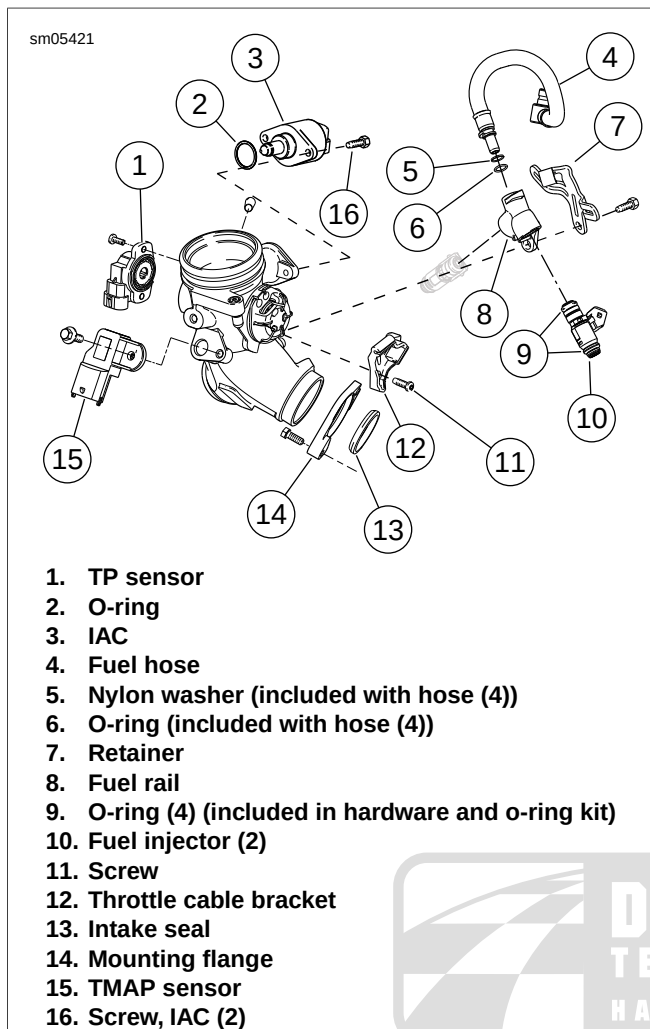

Figure 4-52. Induction Module
1. See Figure 4-52. Remove retainer (7). Remove fuel rail (8) with hose (4) and injectors (10) from the induction module.
2. Remove hose (4) and injectors (10) from fuel rail.
3. Remove cable bracket (12).
1. See Figure 4-52. Install the following assemblies: